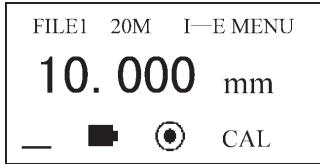

Figure 17
- e. Press the ↑ or ↓ key to adjust the displayed value to 10.00 mm see figure 17